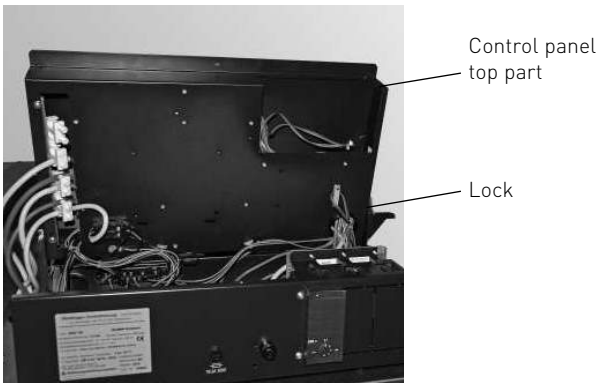

Fig. 85 Folding up control panel top part
- Loosen 1 screw on top of control panel cover and take off cover – Fig. 85.